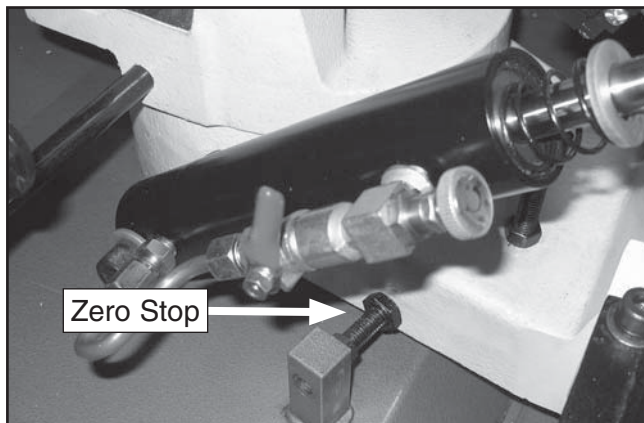

Figure 49. Zero degree swivel stop.
4. Observe the scale, and if the headstock has not completely stopped at zero, or if it has overshot the zero mark, adjust the zero stop (**Figure 49**) so it will line up with the mark .